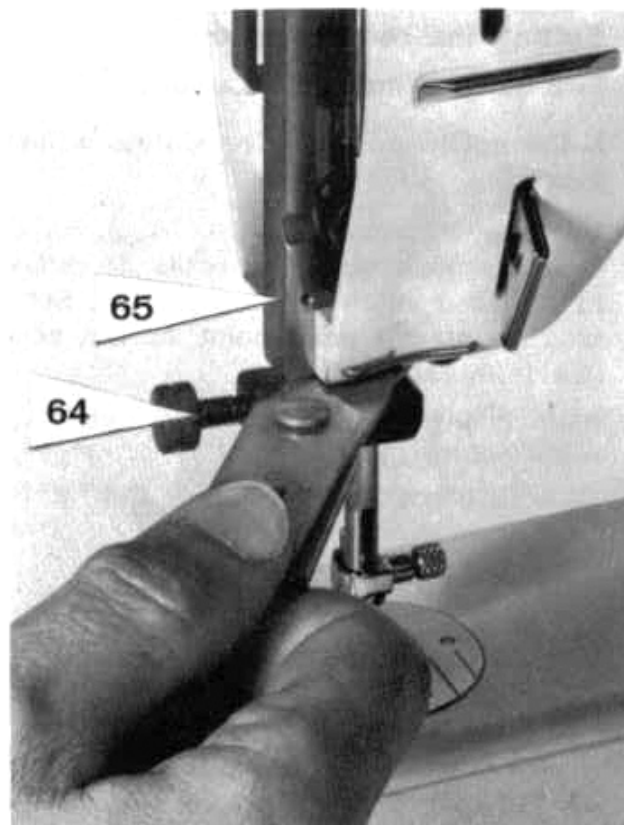

Fig. 28
Insert loop lift gauge (1,8 mm) beneath the swivel support and raise needle bar by turning handwheel until clamping piece (64) contacts the swivel support (65) (Fig. 28).